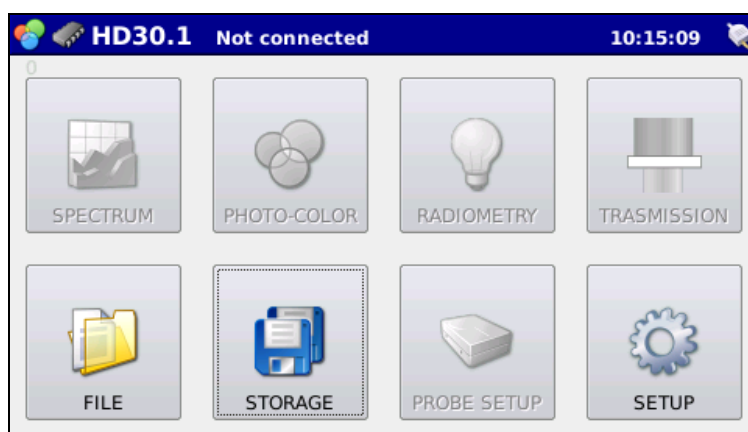

Fig. 4.1: STORAGE and FILE buttons allow measurements to be monitored and recalled.
The acquired measurements can be handled/displayed using buttons in the main screen (fig. 4.1)
4.4 Press  to return to the main screen (Fig. 4.1).
4.5 Press  in the main screen to display stored measurements (fig. 4.1).